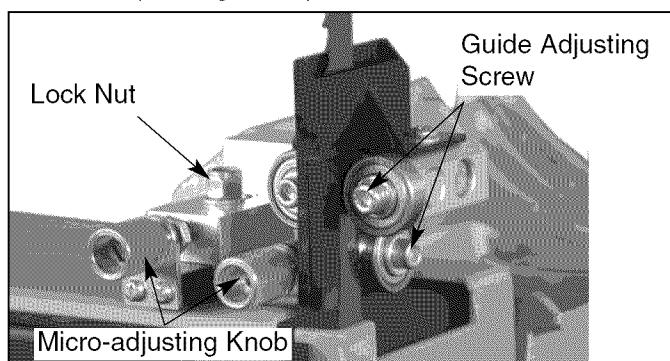

Figure 26 - Adjusting Blade Guides
- To adjust the lower blade guides, first position the right and left roller guides relative to the blade by loosening the lock nut (see Figure 26) and moving the guide carrier until both roller guides are approximately $\frac{1}{16}$ " behind the gullets of the saw blade.
- Set both roller guides to within $\frac{1}{32}$ " of the saw blade by releasing the guide adjusting screw (see Figure 26) through turning the micro-adjusting knobs on each side of the saw blade. Do not set the roller guides too close as this will adversely affect the life of the saw blade.
- Adjust the rear roller guide to be just clear of the back of the saw blade by unlocking the guide adjusting screw (see Figure 26) through turning the micro-adjusting screw.
- When the correct adjustment is reached, lock the roller guides in position with the guide adjusting screws (see Figure 26).